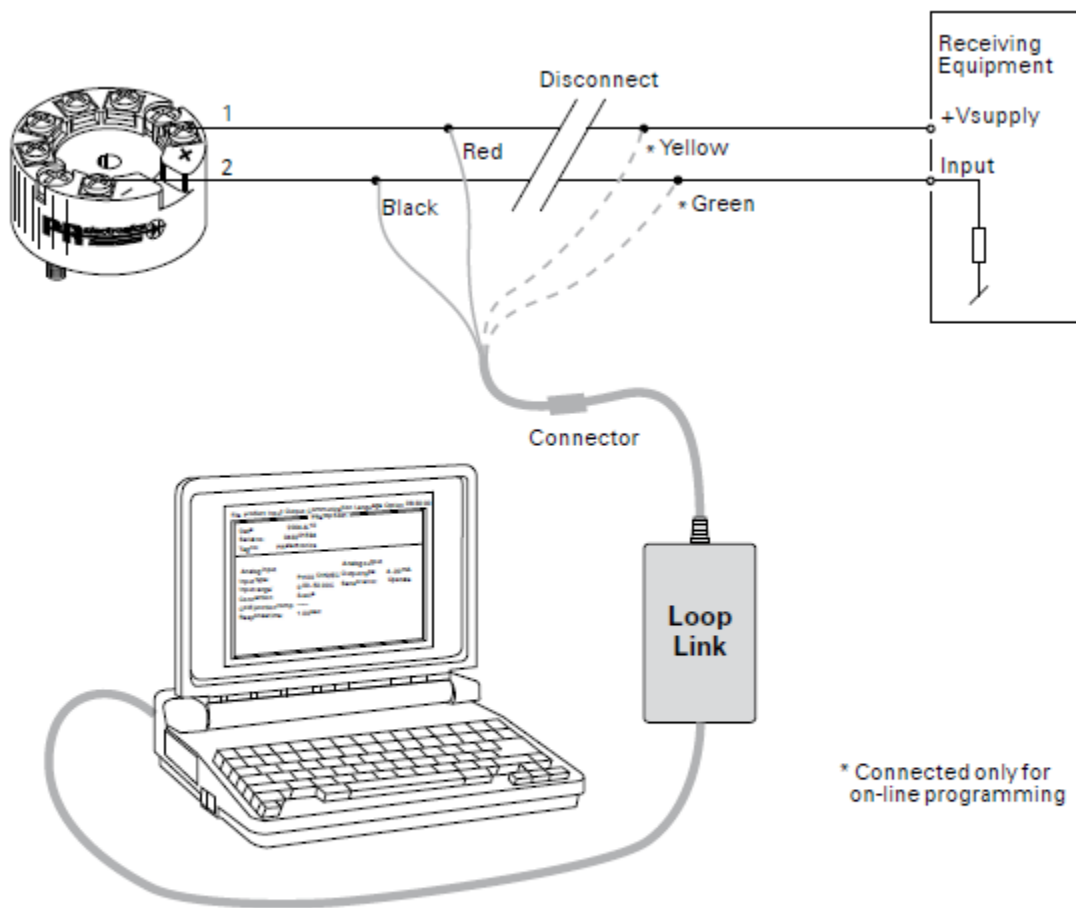

Figure 3
5. Connect a 24 VDC power supply and an accurate milliammeter (5½ digit preferred) as shown in Figure 3, or use a loop calibrator instead of the DC power supply and milliammeter.